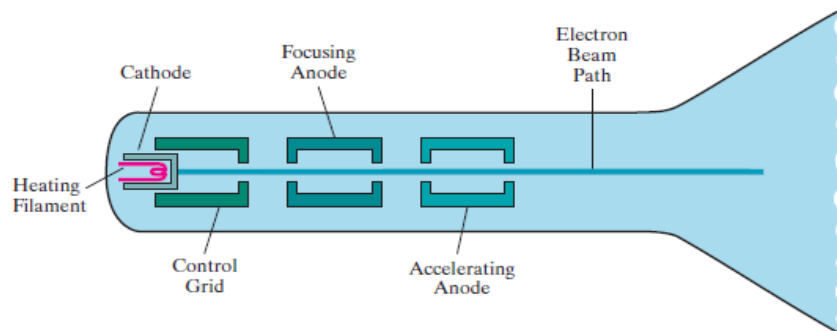

FIGURE 2-3 Operation of an electron gun with an accelerating anode.
5. This type of display is called a **refresh CRT**, and the frequency at which a picture is redrawn on the screen is referred to as the **refresh rate**. The primary components of an electron gun in a CRT are the heated metal cathode and a control grid (Fig. 2-3).
7. In the vacuum inside the CRT envelope, the free, negatively charged electrons are then accelerated toward the phosphor coating by a high positive voltage. The accelerating voltage can be generated with a positively charged metal coating on the inside of the CRT envelope near the phosphor screen, or an accelerating anode, as in Fig. 2-3, can be used to provide the positive voltage.
13. This arrangement forms an electrostatic lens, as shown in Fig. 2-3, and the electron beam is focused at the center of the screen in the same way that an optical lens focuses a beam of light at a particular focal distance. Similar lens focusing effects can be accomplished with a magnetic field set up by a coil mounted around the outside of the CRT envelope, and magnetic lens focusing usually produces the smallest spot size on the screen.